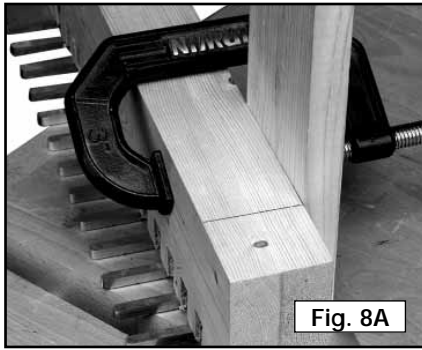

Fig. 8A
**Step 1** - Clamp the pin board with the outside surface facing away from the clamping board (Fig. 8A). Align the edge of the pin board with the line drawn in **STEP 3** of “**CUTTING THE TAILS**”.